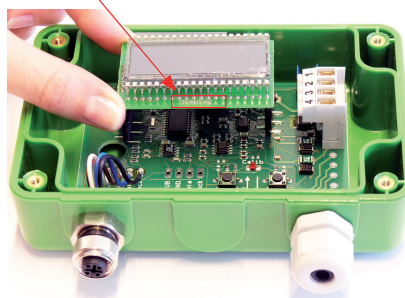

Fig. 7 Display orientation
4. Place the display connecting leads onto the sockets on the main electronic board while observing its orientation (Fig. 7). Push the display gently straight down to plug it in. Observe the ESD regulations while doing this.